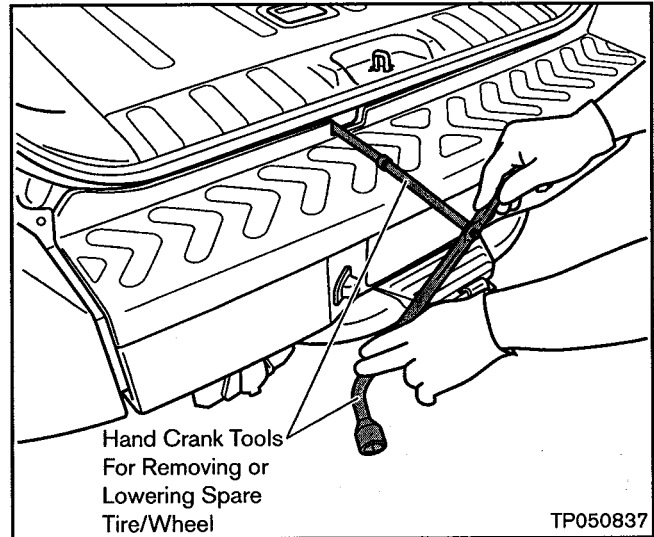

Figure 1
1. Remove or lower the Spare Tire/Wheel using the Hand Crank tools from the tool kit (see Figure 1).